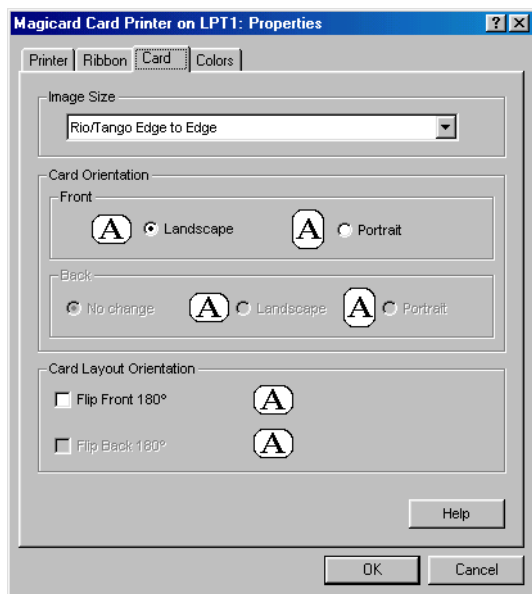

Figure 8: Printer Configuration Options – Card Tab
- Click on the Card Tab and a window with card layout options appears (see Figure 8 on page 9).
*NOTE: Your choice between Portrait or Landscape orientation **must** match what you select under printer setup (see Figure 8 on page 9).*